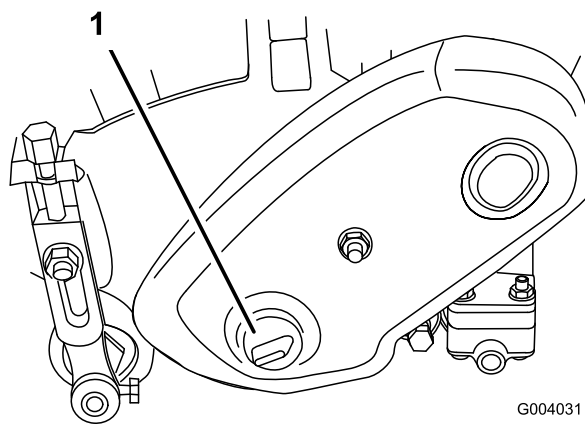

Figure 62
1. Remove plug from the reel drive cover on the left side of reel assembly (Figure 62)